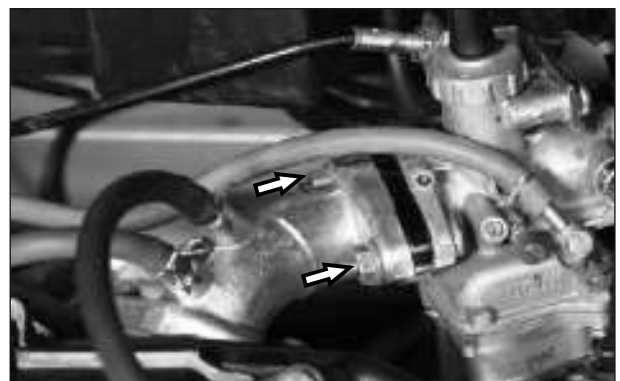

Fig. 4.19
- Loosen and remove 2 nos. Hexagonal flange nut M6 from intake manifold. (Fig. 4.19)